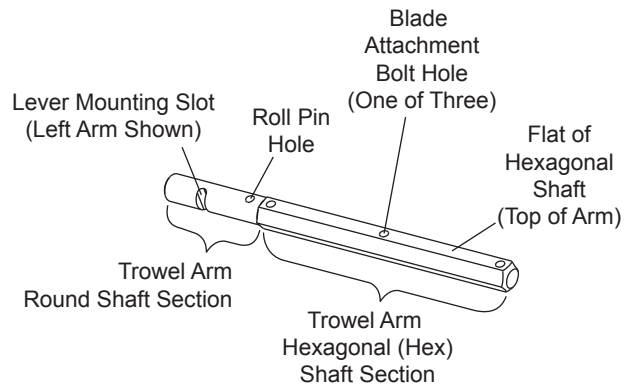
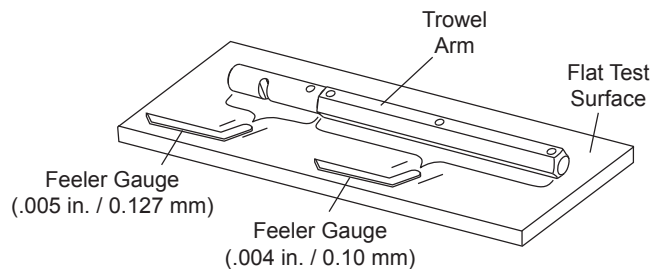

Figure 37. Trowel Arm
Figure 38. Checking Trowel Arm Straightness
Trowel arms can be damaged by rough handling (such as dropping the trowel on the pad), or by striking exposed plumbing, forms, or rebar while in operation. A bent trowel arm will prevent smooth, fluid rotation of the blades. If bent trowel arms are suspected, check for straightness as follows. Refer to Figure 37 and Figure 38.
2. Check each of the six sides of the trowel arm hex section. A feeler gauge of .004 inch (0.10 mm) should not pass between the flat of the trowel arm and the test surface along its length on the test surface. (Figure 38).